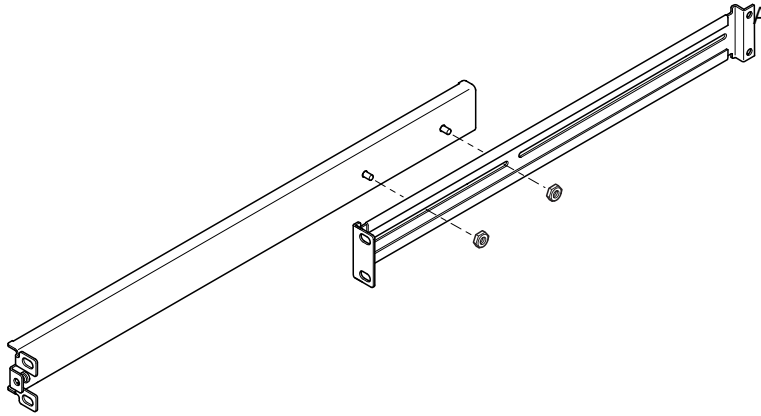

FIGURE 2-2 Positioning the Slide Mounts for a Sun StorEdge 72-Inch Tall Rack
- 1. Position the two parts of the slide so that the double-angled ear (A) is in the correct position for the rack you are installing into.**
- For the Sun StorEdge 72-inch tall (19-inch wide) rack, the double-angled ear (A) must be to the rear (see FIGURE 2-2).